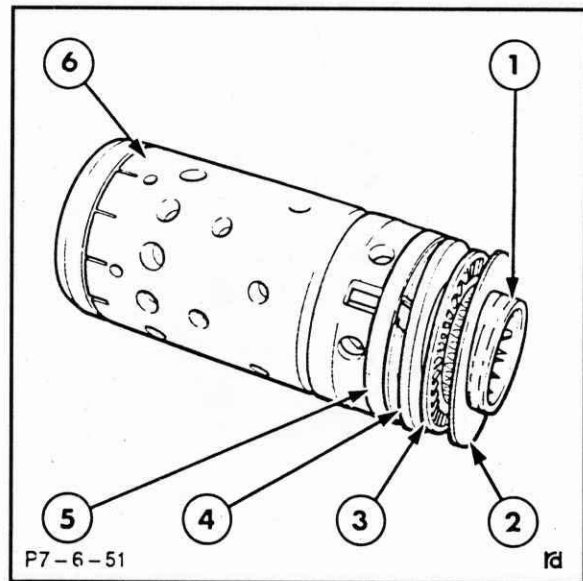

Figure 7-37
4. Assemble the leaf spring retainer, bearing race, needle bearing, and thrust washer onto the valve assembly, Figure 7-37. The bearing race must be positioned with the chamfer side facing the spool.